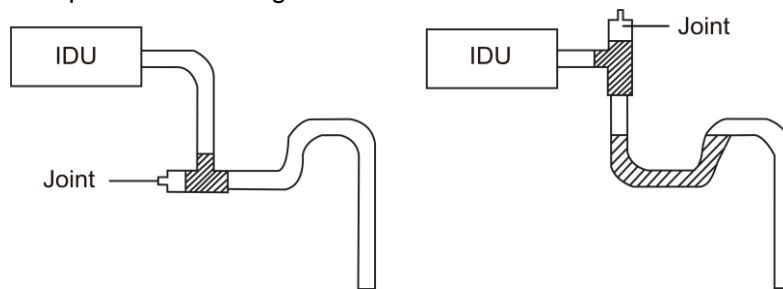

Fig 4.3.6
(6) Install the trap as shown in Fig 4.3.6.